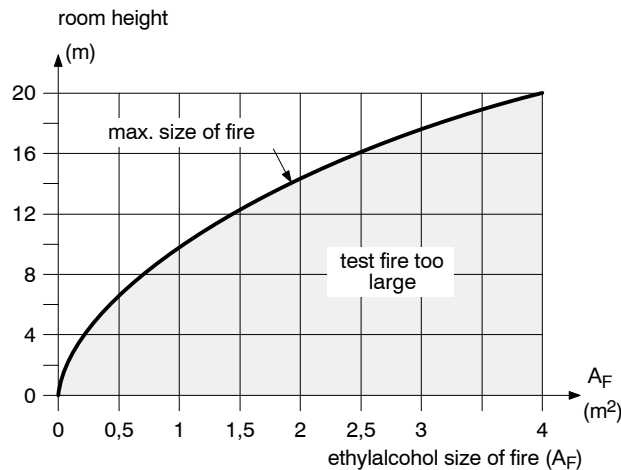
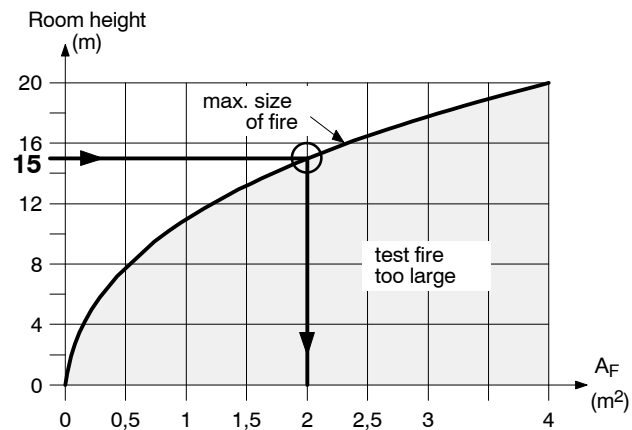

Fig. 11 Graph to show maximum permissible size of fire according to room height (curve construction: $10 \times \sqrt{A_F}$)
Fig. 16
1. Calculate max. permissible size of test fire on the basis of room height (see Fig. 11 and Fig. 16).